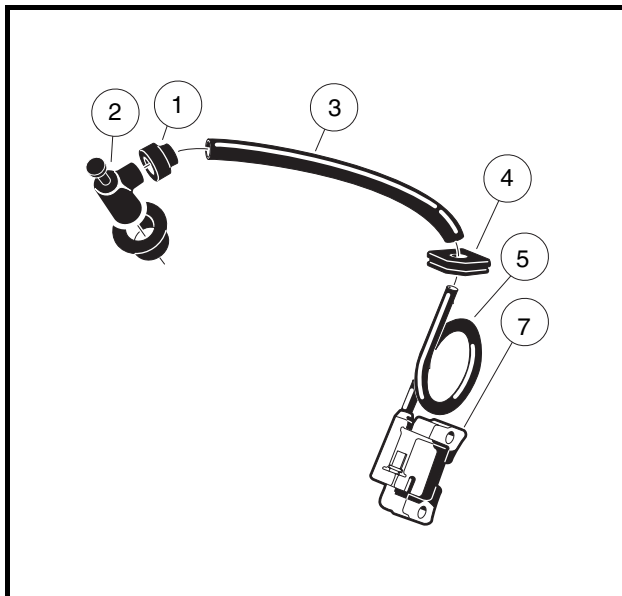

Figure 11-44 Ignition Coil and Cap
- 5.1. Remove the rubber gasket (1) on the plug cap (2) by rolling back the gasket onto the spark plug wire (3) (**Figure 11-44, Page 11-36**).
- 4.1. Remove the rubber gasket (1) on the plug cap (2) by rolling back the gasket onto the spark plug wire (3) (**Figure 11-44, Page 11-36**).